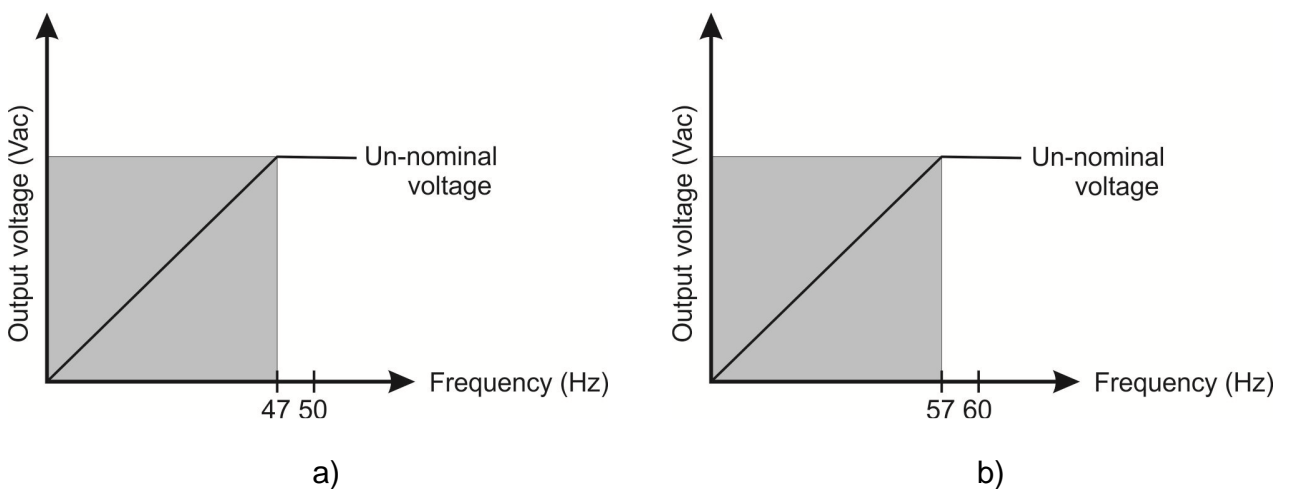

Figure 3. Under frequency "knee": a) 50 Hz system, b) 60 Hz system
The AVR BL4-U incorporates an underspeed protection circuit (UF) which gives a volts/Hz characteristic when the generator speed falls below a presettable threshold known as the "knee" point. The UF knee adjustment is preset at factory at the 47Hz on a 50Hz system or 57Hz on a 60Hz system. Selection of 50 / 60Hz can be made using the jumper link. Figure 3, shows the curves for voltage variation as a function of frequency variation. For nominal frequency operation, UF is disabled. When rotation decreases (for ex. when shutting down), excitation diminishes, reducing the output voltage of the generator. The pre-set "knee" point can be altered, by UF trim pot, according to the needs of each application.